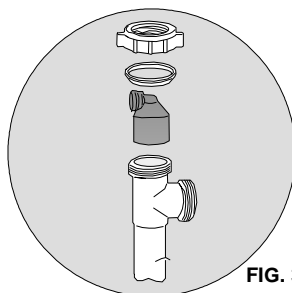

FIG. 3
4. Insert new drain line adapter with push-in connector (provided) into top of disposal tee until it firmly seats on bottom of socket. Gently secure with S.J. washer and wing nut (provided). (See Fig. 3)